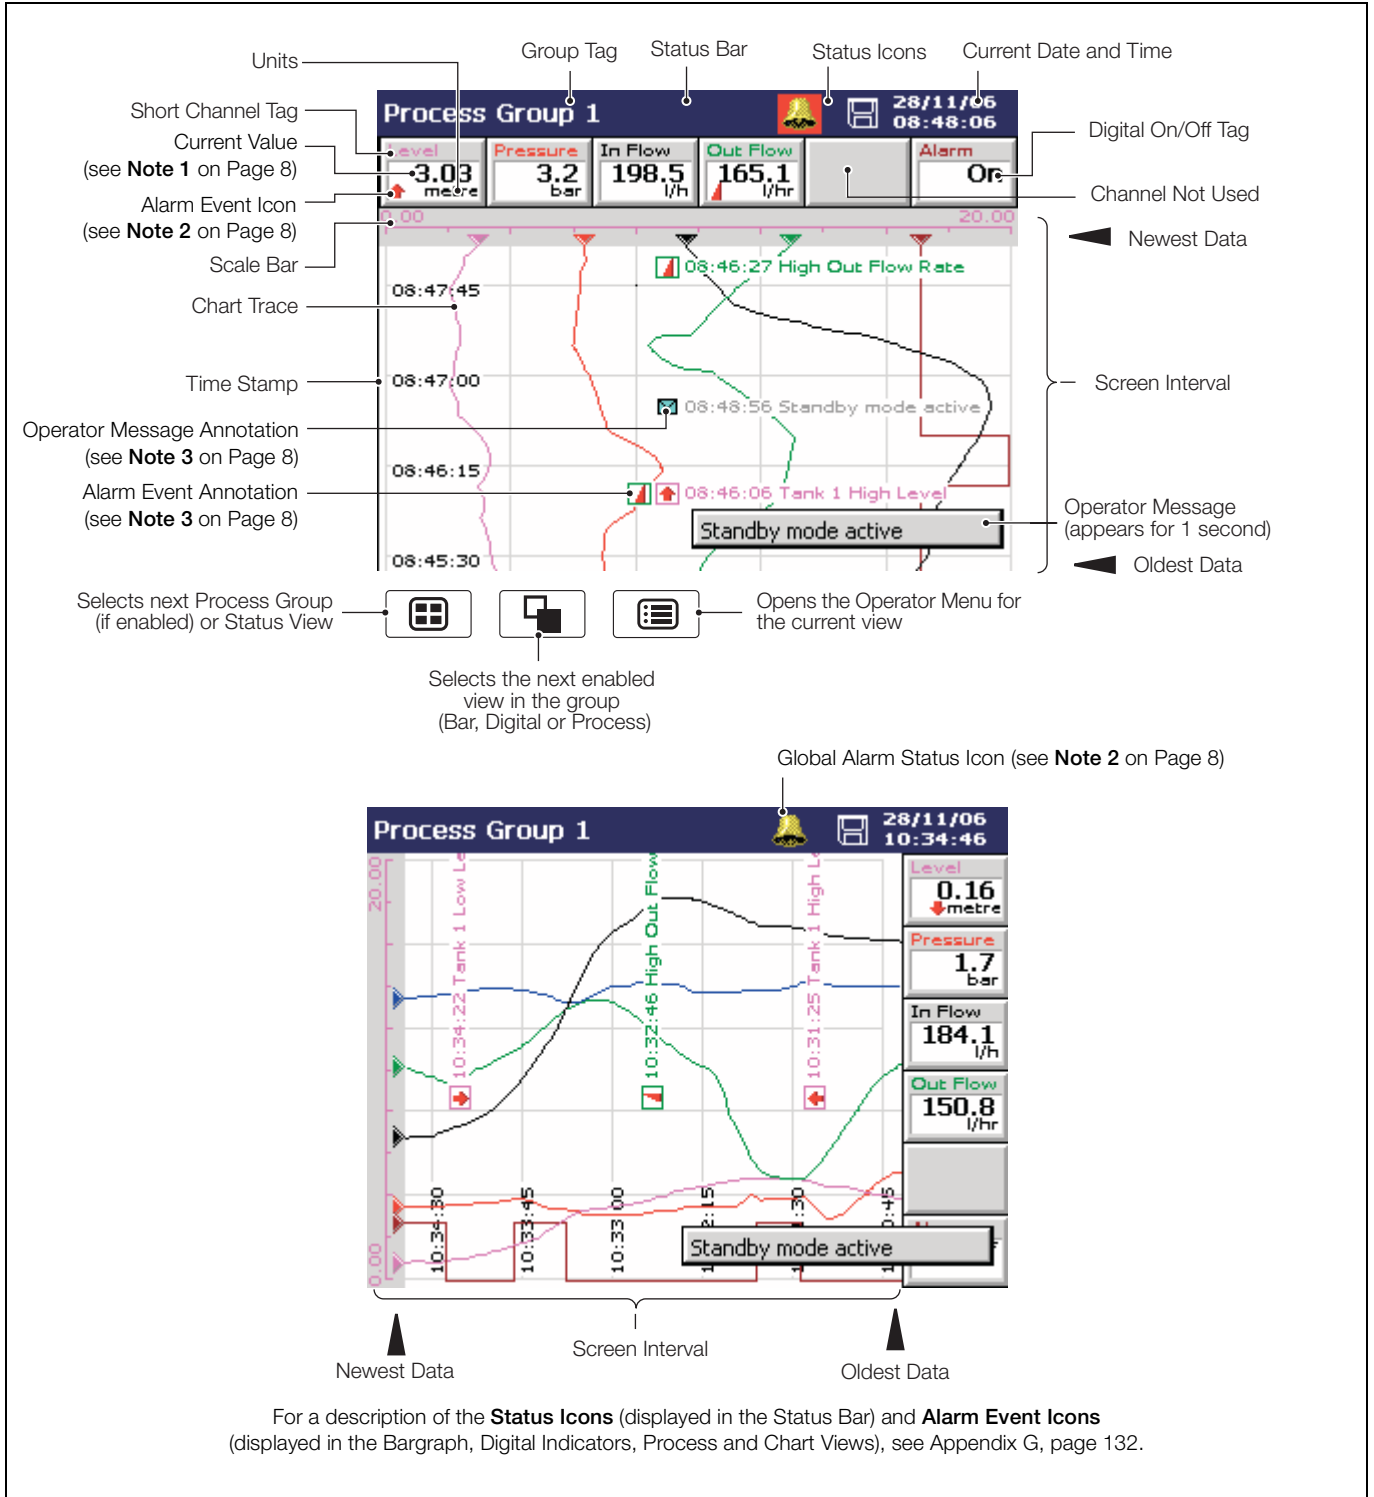

Fig. 2.3 Horizontal and Vertical Chart Views
2.3 Chart Views – Fig. 2.3
If **any** alarm in **any** process group is active, the Global Alarm status icon () is displayed in the status bar – see Fig. 2.3. If **any** active alarm in **any** process group is unacknowledged, the icon is surrounded by a red flashing border ().